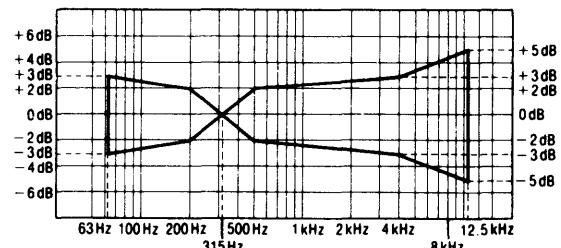

Fig. 6
2. Assure that the frequency response is within the range shown in **Fig. 6** for both L-CH and R-CH.